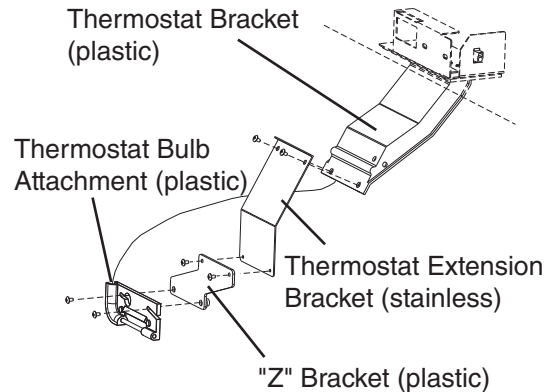

Fig. 5
- i. Remove the 2 screws from the lower part of the thermostat bracket (plastic) and use them to attach the thermostat extension bracket (stainless) to the thermostat bracket (plastic). See Fig. 5.